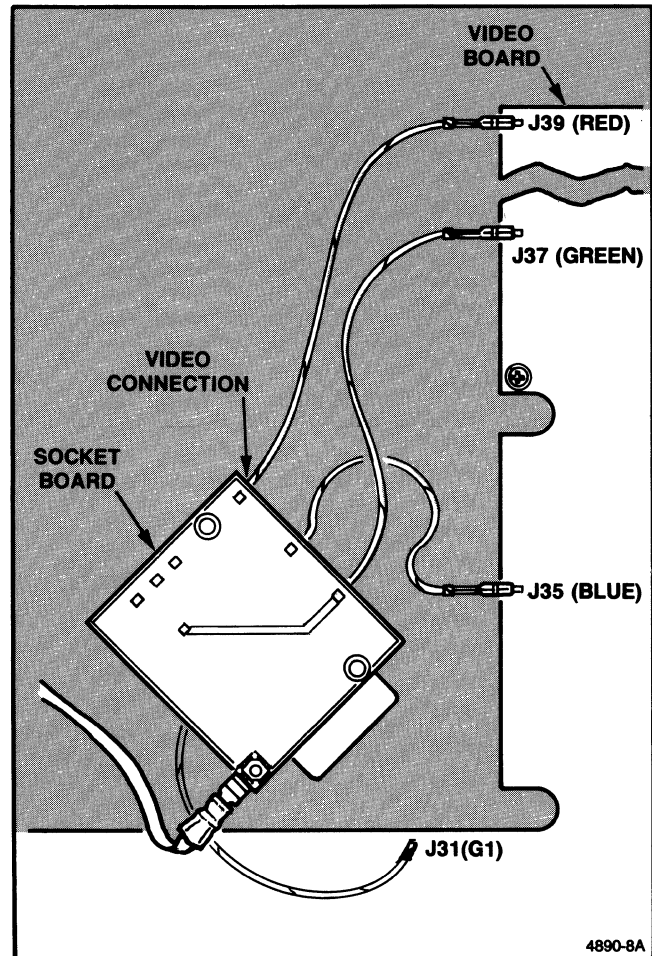

Figure 5-5. Video Signal Connection on Socket Board.
- Connect a 10X oscilloscope probe to the video output. The most accessible point is where the white wire with red stripe connects to the Socket board. This is shown in Figure 5-5.